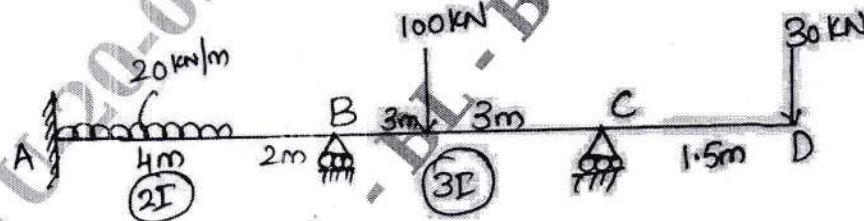

Fig.Q1
1. Analysis the continuous beam shown in Fig.Q1 by slop deflection method. Draw SFD, BMD and electric curve.